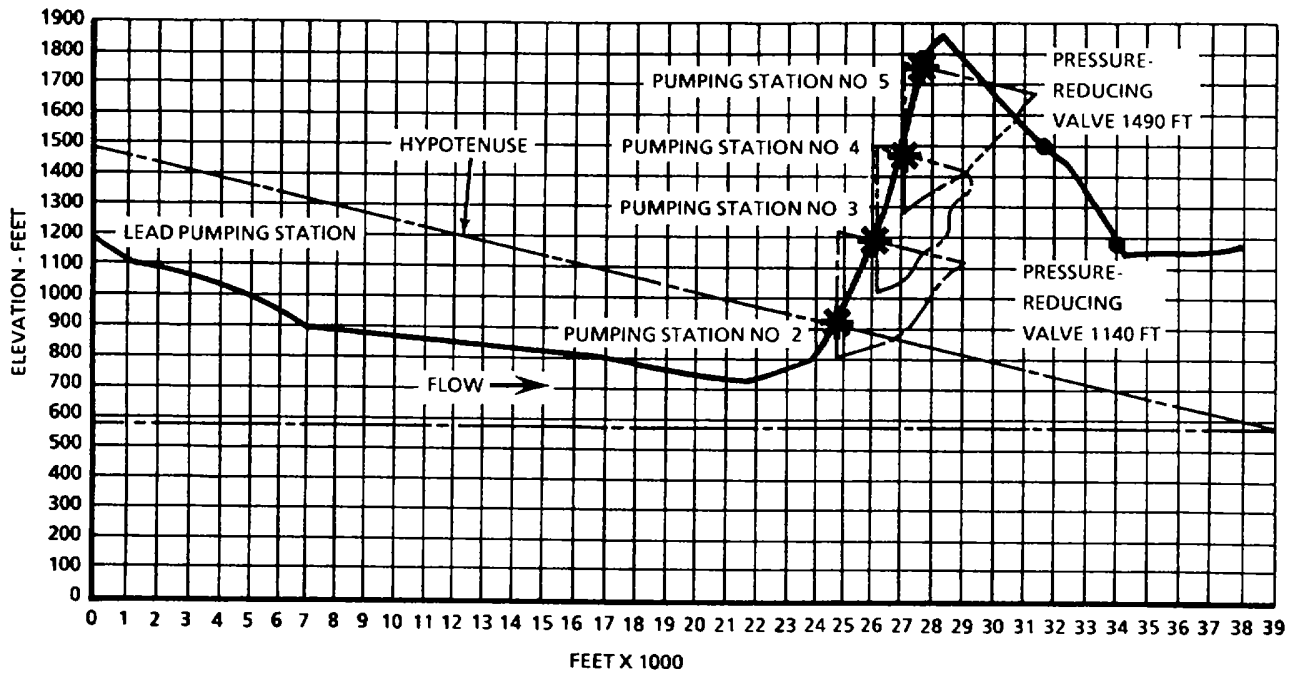

Figure 2-10. Locating Pumping Stations.
- (1) Zero represent the elevation of the pumping station.
- (2) The upper left-hand corner represents 300 ft above the pumping station.
- (3) The lower left-hand corner represents 600 ft below the pumping station.
- (9) Using the ground profile and pump spacing triangle, determine the location of the first boost pumping station as follows (refer to figure 2-10).